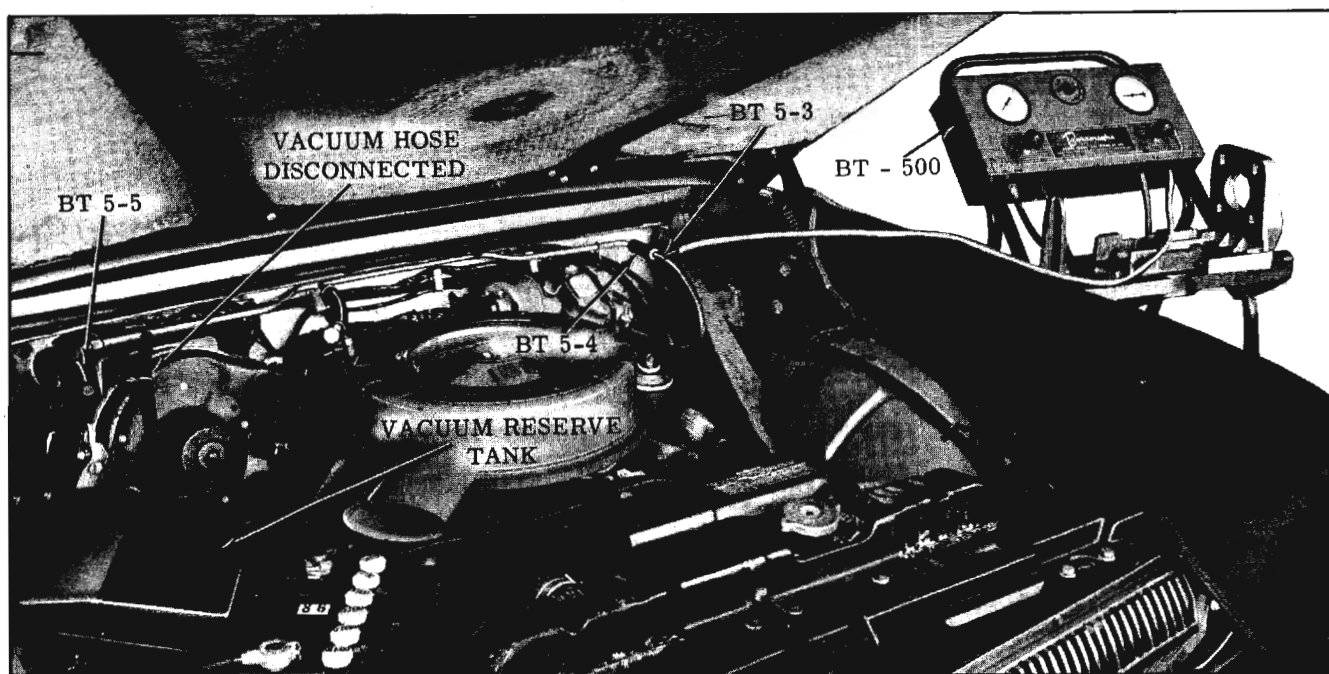

Fig. 7-138 Testing Vacuum System (Less Vacuum Reservoir)
1. Connect tester hose as shown in Fig. 7-138.